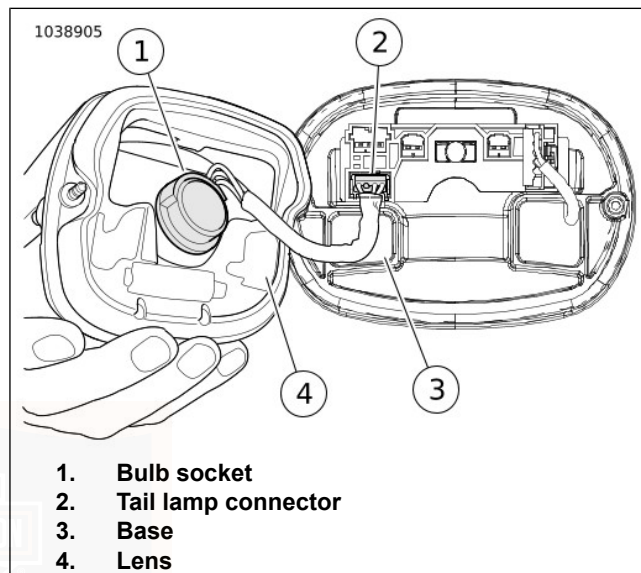

Figure 84. Incandescent Tail Lamp Assembly
2. See Figure 84. Disconnect tail lamp connector (3).
3. Rotate bulb socket (4) a quarter turn counterclockwise and remove from tail lamp assembly. Remove bulb.
2. See Figure 84. Insert socket (4) into tail lamp assembly. Rotate a quarter turn clockwise.
3. Attach tail lamp connector (3).